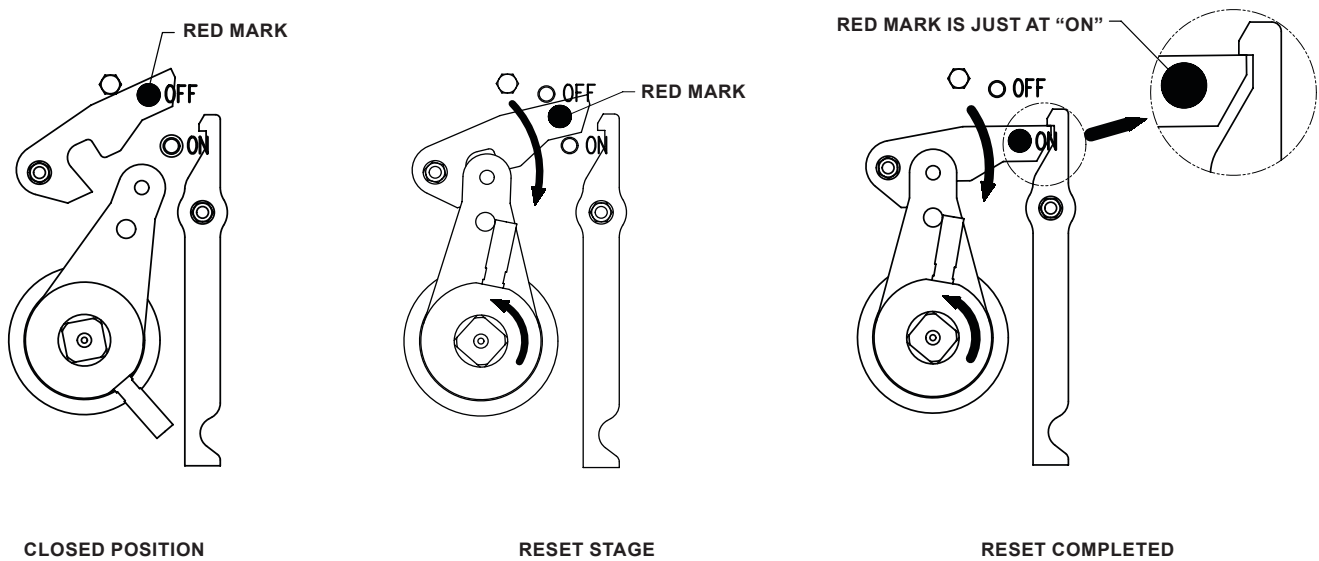

Figure 11. OS9/80X-R Series Slam-Shut Controller Resetting Position
Pilot-loaded controllers are used when required reset differential pressures (ΔP_{wo} and ΔP_{wu}) are much lower than spring-loaded controller's reset differential pressures. See Tables 7 and 8 and Figure 11.
5. From the position where the change of resistance force could be obviously felt, slowly turn the handle counterclockwise to the degree of 45° to 60° and wait until the inlet and outlet pressures are balanced, then continue to turn the handle until the red mark is at ON position to complete the reset operation (see Figure 11). The handle may need to be turned certain degrees: 445° for DN 200 / NPS 8 and 480° for DN 300 /NPS 12 Type BM9.